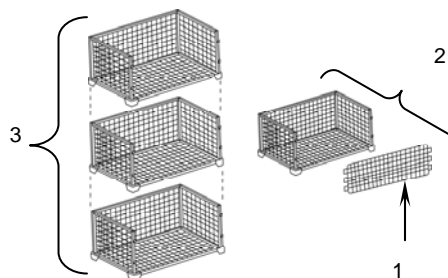

Figure 14. Disassembling the Storage Rack Assemblies.
- a. Remove the shelves (front cover) (Figure 14, Item 1) from the storage rack assembly (Figure 14, Item 2).
- b. Disassemble the stacked rack units (Figure 14, Item 3) and place the front cover (Figure 14, Item 1) on each storage rack assembly (Figure 14, Item 2).